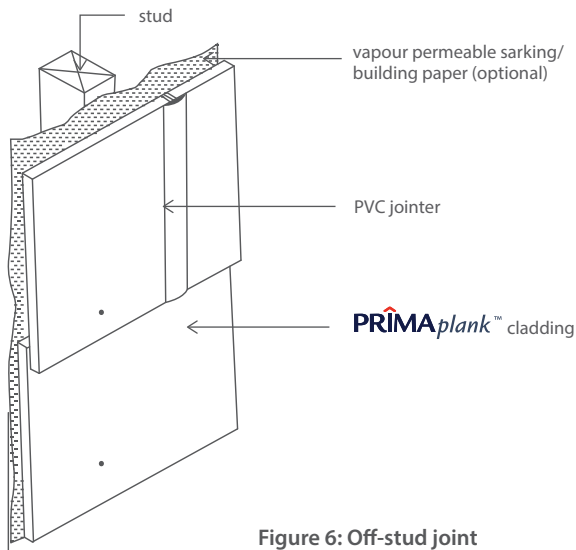

Figure 6: Off-stud joint
**PRIMAplank™** "off-stud" jointing method incorporates proprietary **PVC jointer** between plank ends. Refer **Figure 6**.
Planks can be jointed with **PVC jointer** or **Butt Joined**. These jointing methods are similar to the external cladding joints shown in **Figure 6 & 7**.